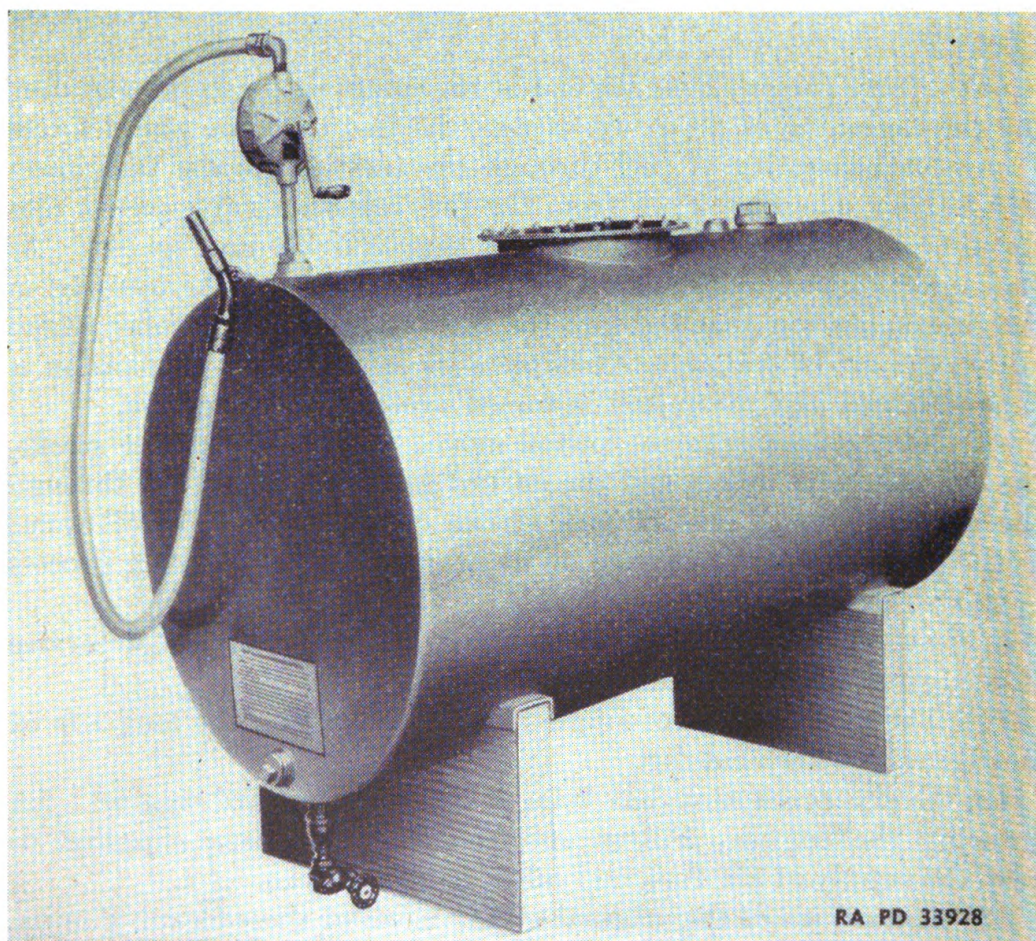

FIGURE 3.—Storage tank with pump.
b. Storage.—(1) Use only oil, fuel, Diesel, for high speed automotive type Diesel engines and then keep it clean. Since natural settling is an effective method of cleaning Diesel fuel, allow the fuel to stand as long as possible after delivery before using.
(2) A storage and settling tank (fig. 3) of 500-gallon capacity or greater provides one of the most satisfactory methods for handling